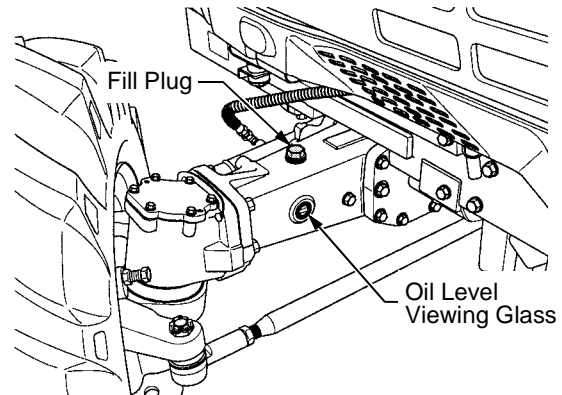

Figure 61
To check the front axle oil level, a viewing glass is provided in the axle. The oil level should be approximately half way up in the viewing glass. See Figure 61.
If the oil level is low, refer to the LUBRICATION TABLE for the proper type and quantity of oil to add to the front axle. Add oil through the oil fill port on top of the axle. Refer to Figure 61.
- After cleaning the area, remove the oil fill plug from the top of the axle. Refer to Figure 61